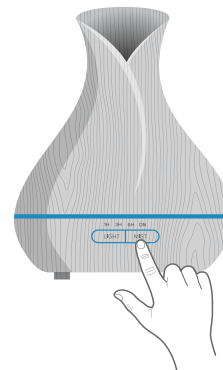

Fig. 5
- 6 To switch on, press the "MIST" button and continue to press the "MIST" button to set desired operation time (1 hour, 3 hour, 6 hour or ON for continuous operation). Mist level is adjustable by hard-pressing the "MIST" button until the Oil Diffuser beeps (one beep for high and two beeps for low). To switch off, press 'MIST' through the following cycle until it is off. (1 hour → 3 hour → 6 hour → on → off). (Fig. 5)